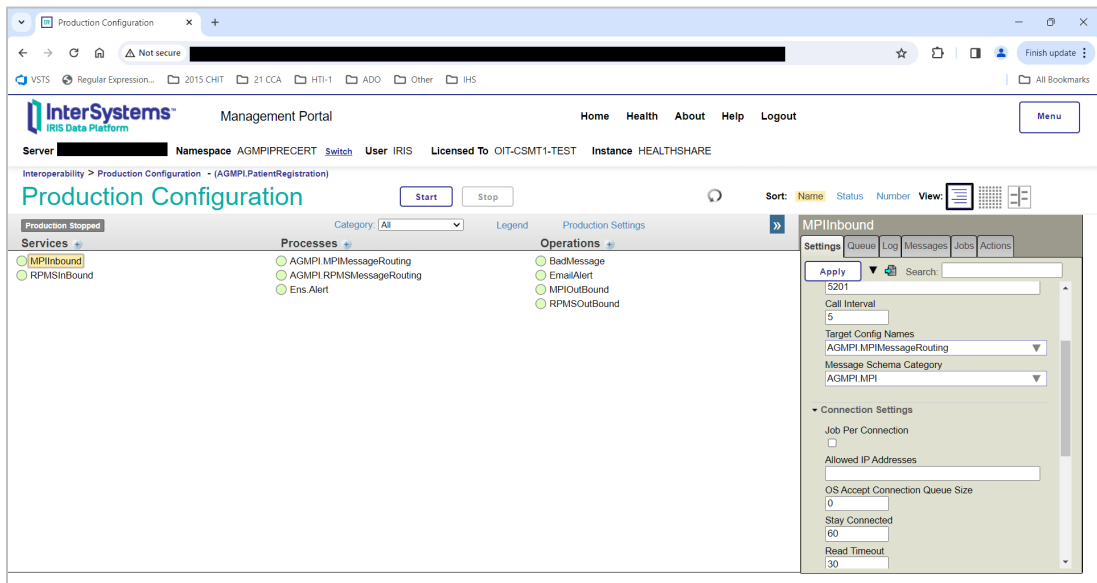

Figure 5-20: **Production Configuration**, MPIInBound settings
1. Click **MPIInbound** on the **Production Configuration** page to display the MPIInbound configuration settings, as shown in Figure 5-20.